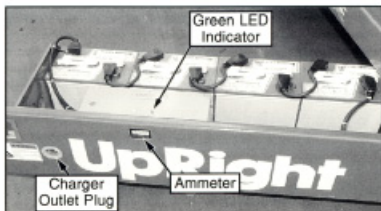

Figure 7: Chassis Module, Right Side
Check battery fluid level daily (Figure 7), especially if work platform is being used in a warm, dry climate.
1. Check battery fluid level (Figure 7). If electrolyte level is lower than 3/8 in. (10 mm) above plates add distilled water only.